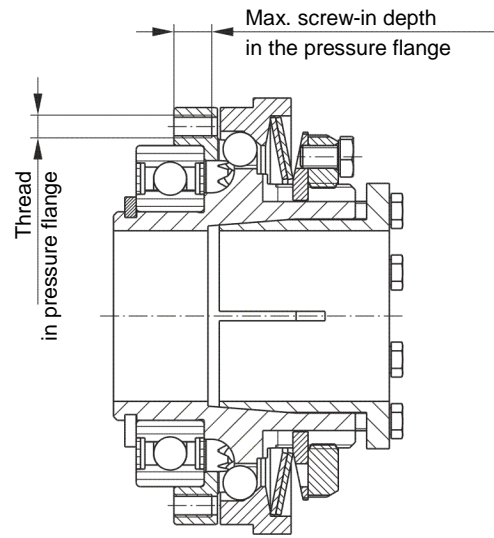

Fig. 3
Please observe the maximum permitted screw-in depth in the pressure flange (2) as well as the connection dimensions "a" and "e" for the output elements, see Figs. 3 or 4 and Table 14.